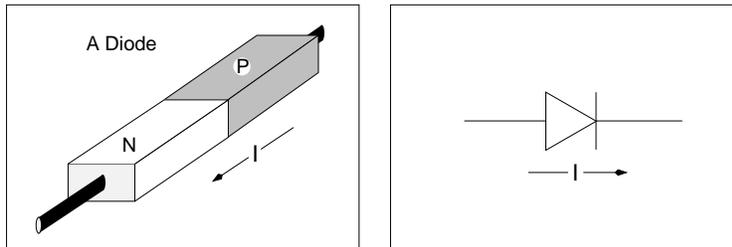

Figure 9
NOTE: Silicon diodes (Fig. 9) are junctions between silicon semiconductors with different type doping: n-type with an impurity which easily donates electrons, e.g. phosphorus (P) in silicon;⁴ and p-type with an “acceptor” impurity, e.g. aluminium (Al) in silicon⁵. The junction between the two types becomes a very non-linear device which if subjected to an electric field acts almost as a one way valve to current flow. The diode symbol has the arrow pointed in the direction of conventional easy current flow (from p-type to n-type) though actual electron flow may be in the opposite direction.